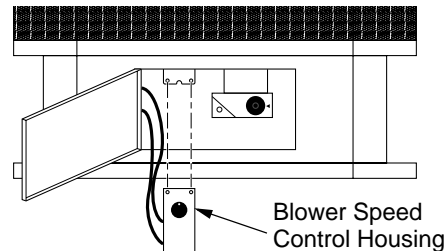

Figure 16 - Installing Blower Control Housing
14. Install plastic control knob onto output shaft of speed control housing (see Figure 15). Place speed control housing just inside control compartment door in front of stove (see Figure 16).
15. Using two screws provided in blower kit, mount blower speed control housing to mounting tab in left side of lower control compartment (see Figure 16).
22. Install plastic control knob onto output shaft of speed control housing (see Figure 20, page 12). Place speed control housing just inside control compartment door in front of stove (see Figure 16, page 11).
23. Using two screws provided in blower kit, mount blower speed control housing to mounting tab in left side of lower control compartment (see Figure 16, page 11).